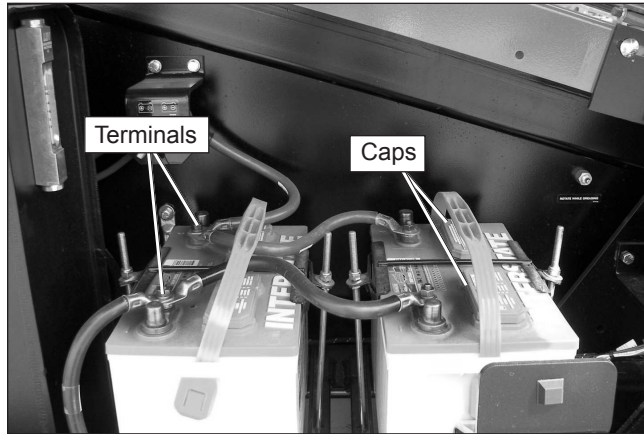

Figure 7.8 – Batteries
Electrical power is supplied from either one or two, 550 CCA, 12 volt batteries (refer to figure 7.8). These batteries supply 12 volt DC electrical power to operate the aerial platform electrical and electrohydraulic components, including the emergency power system.
1. Remove the caps from the battery (refer to Figure 7.8).
1. Check the top of the battery, the terminals, and cable ends (refer to Figure 7.8). They should be clean and free of corrosion.